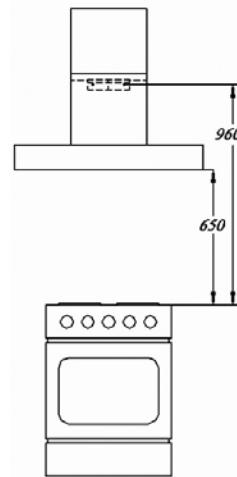

Fig. 3
- On the wall behind the hotplate, mark the minimum installation height (650 mm for electric and 700 mm for gas hotplates, as shown in Fig. 3).
- Drill the holes, fix, with wall plugs (G) and screws (H) enclosed, the wall holder (D) in the height required (960 mm for electric, and 1,010 mm for gas hotplates, as shown in Fig. 3).